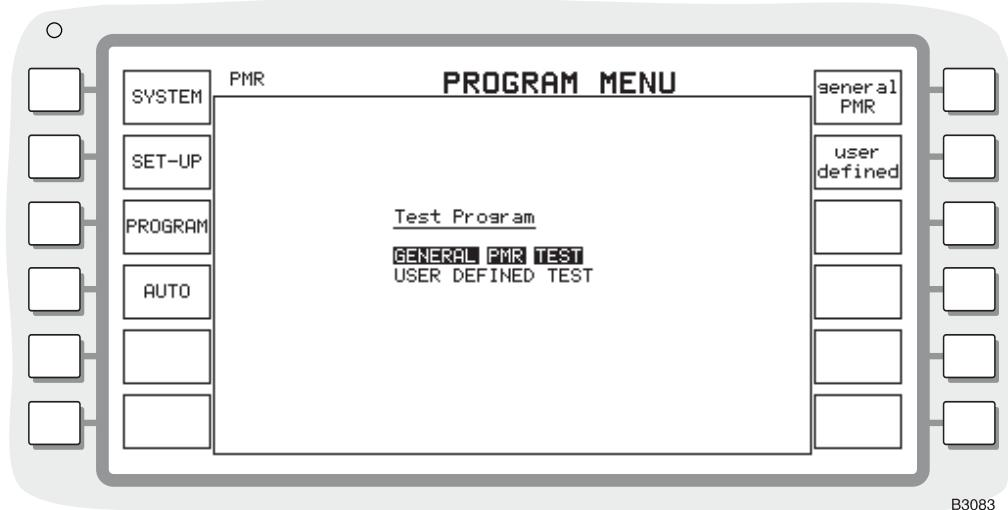

Fig. 1-2 Program menu
8. Press the [*PROGRAM*] key, followed by the [*user defined*] key to select the downloaded program; the display will be as shown in Fig. 1-2.